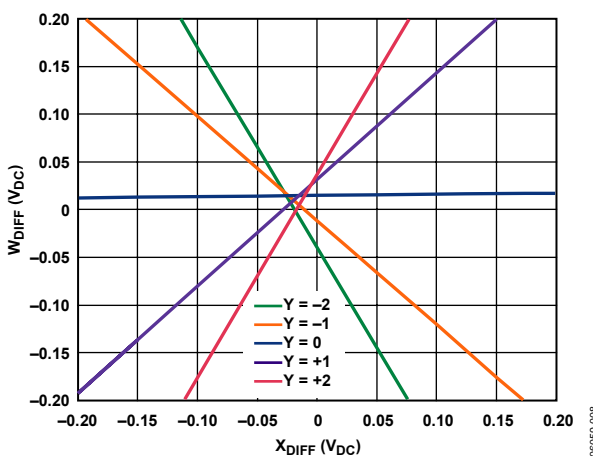

Figure 4. Magnified DC Cross Plots
The dc offset of the ADL5391 is approximately 20 mV but changes over temperature and has variation from part to part (see Figure 4). It is generally not of concern unless the ADL5391 is operated down to dc (close to the point $X = 0 \text{ V}$ or $Y = 0 \text{ V}$), where 0 V is expected on the output ($W = 0 \text{ V}$). For example, when the ADL5391 is used as a VGA and a large amount of attenuation is needed, the maximum attenuation is determined by the input dc offset.
The dc component of the output is related to the square of both the offset (OFST) and the signal input amplitude (E). The offset can be found in Figure 4 and is approximately 20 mV. The second harmonic output grows with the square of the input amplitude, and the signal bleedthrough grows proportionally with the input signal. For smaller signal amplitudes, the signal bleedthrough can be higher than the second harmonic component. As the input amplitude increases, the second harmonic component grows much faster than the signal bleedthrough and becomes the dominant signal at the output. If the X and Y inputs are driven too hard, third harmonic components will also increase.